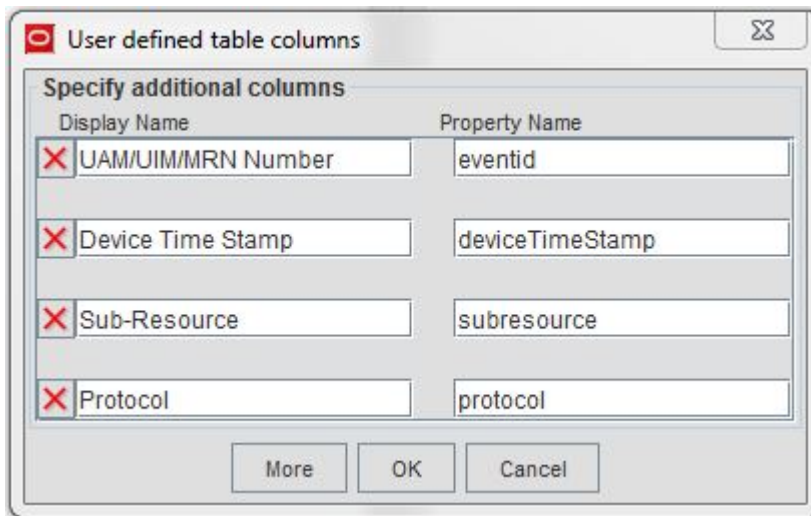
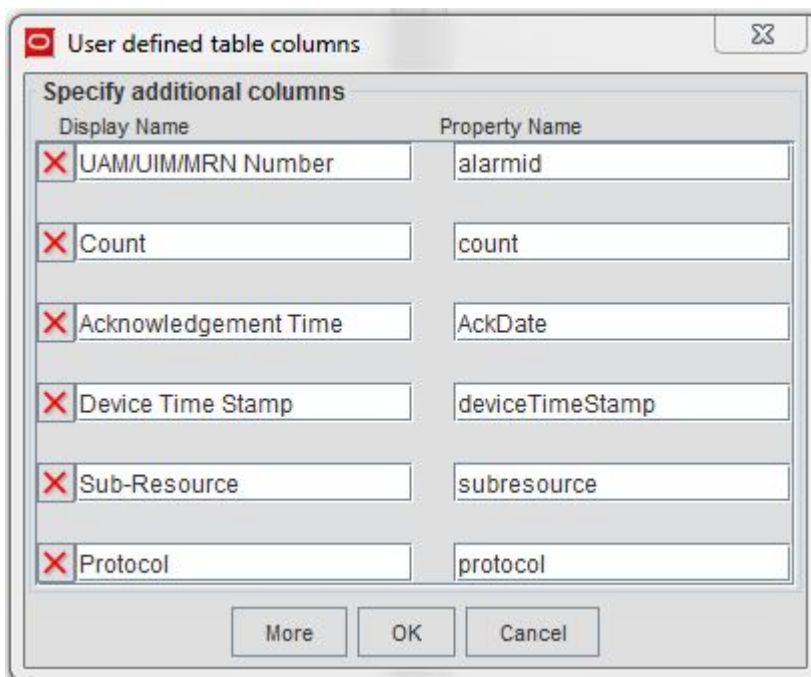

Figure 204: Specifying Additional Table Columns for Network Events
Figure 205: Specifying Additional Table Columns for Alarms
The **User defined table columns** dialog box is displayed, as shown in Figure 204: Specifying Additional Table Columns for Network Events and Figure 205: Specifying Additional Table Columns for Alarms.
4. Enter the display name and corresponding property name in the **Display Name** and **Property Name** fields exactly as shown in Figure 204: Specifying Additional Table Columns for Network Events and Figure 205: Specifying Additional Table Columns for Alarms.